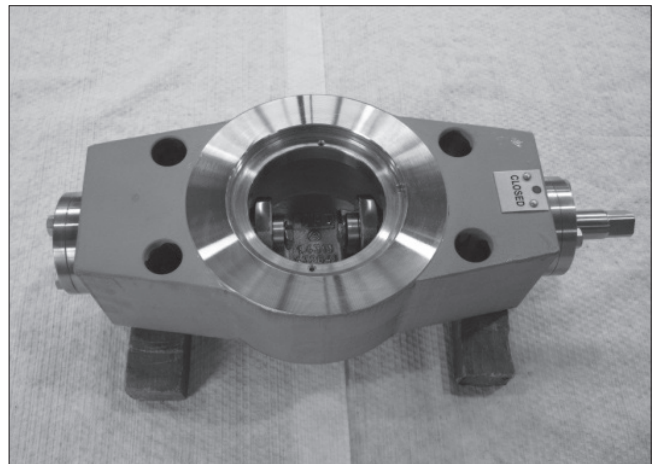

Fig. 26 Disc swivelled by 180°
3. Open the disc by turning the drive shaft counter-clockwise by 180° in order to access the sealing element (see fig. 26, disc swivelled by 180°). Secure the disc, for example using wooden wedges, to eliminate the risk of squeezing or crushing. Make sure that the sealing surface of the disc is not damaged in the process.